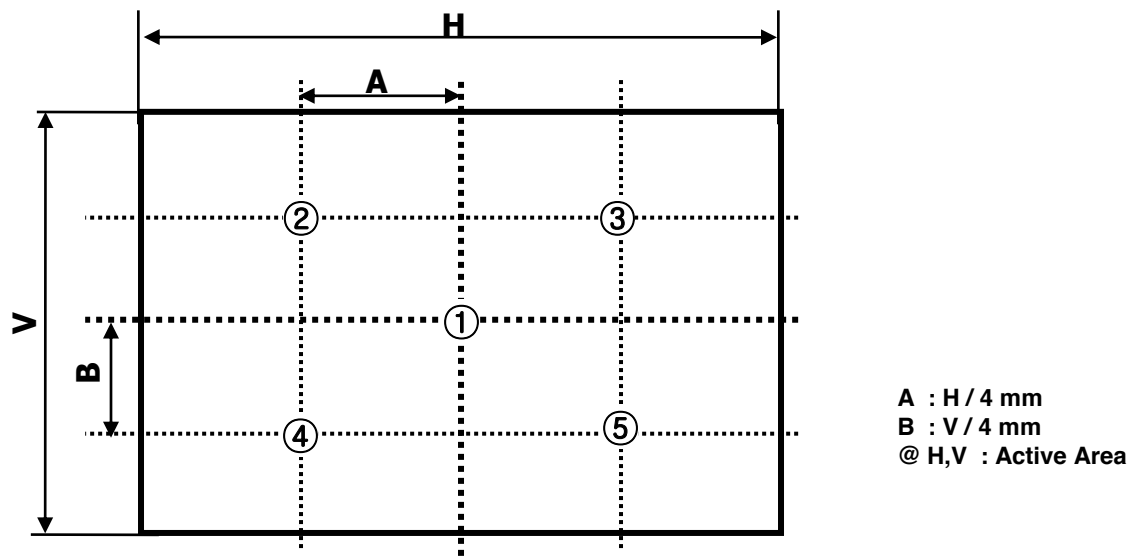

FIG.10 5 Points for Luminance Measure
2. Surface luminance is determined after the unit has been 'ON' and 1Hour after lighting the backlight in a dark environment at $25 \pm 2^\circ\text{C}$. Surface luminance is the luminance value at center 1-point across the LCD surface 50cm from the surface with all pixels displaying white. For more information see the FIG. 10.
For more information, see the FIG. 10.